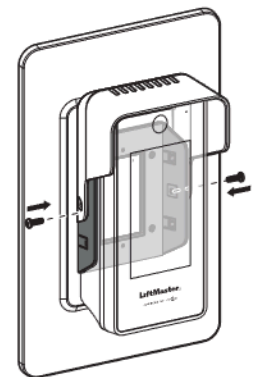

Figure 8
4. Once both sides are seated, using new screws provided with CAPXSHOOD, tighten using a T20 Torx Screw Driver. (See Figure 8)